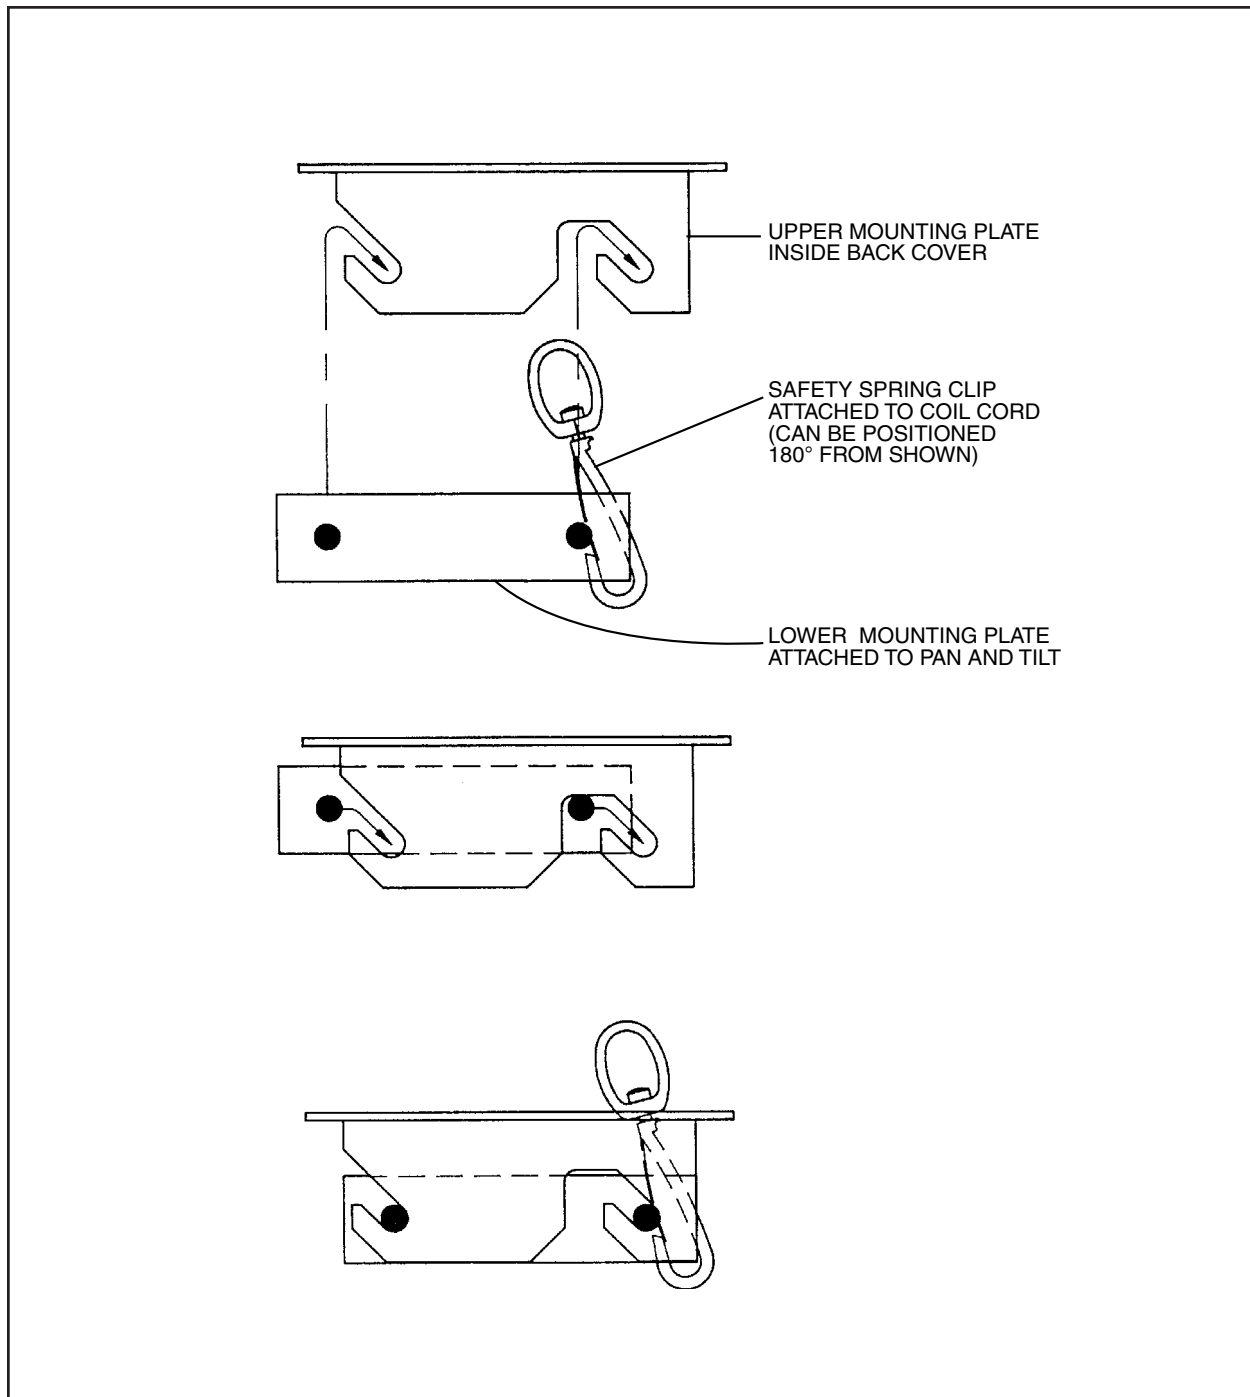

Figure 4. Pan/Tilt Mounting Detail
12. Engage the connector of the coil cord into the connector of the pan/tilt and attach the safety clamp; then insert the pan/tilt into the back box, feeding the coil cord back through the opening in the top of the back box. Position the pan/tilt in the back box so that the horizontal studs in the pan/tilt mount bracket align with the slots in the back box mount bracket. Lift the pan/tilt until it reaches its stop, then slide it to one side while letting it drop about 1/4 inch (see Figure 4).
10. Engage the connector of the coil cord into the connector of the pan/tilt and attach the safety clamp; then insert the pan/tilt into the back box, feeding the coil cord back through the opening in the top of the back box. Position the pan/tilt in the back box so that the horizontal studs in the pan/tilt mount bracket align with slots in the back box mount bracket. Lift the pan/tilt until it reaches its stop, then slide it to one side while letting it drop about 1/4 inch (see Figure 4).
9. Engage the connector of the coil cord into the connector of the pan/tilt and attach the safety clamp; then insert the pan/tilt into the back box, feeding the coil cord back through the opening in the top of the back box. Position the pan/tilt in the back box so that the horizontal studs in the pan/tilt mount bracket align with slots in the back box mounting bracket. Lift the pan/tilt until it reaches its stop, then slide it to one side while letting it drop about 1/4 inch (see Figure 4).